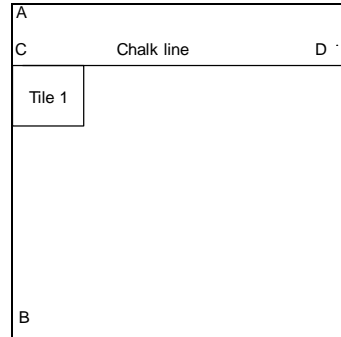

Figure 2
3. Place the first tile (tile #1 in Fig 2) in the corner of the straight wall (Fig 2, AB) and the chalk line (Fig 2, CD) with the finished edge towards the corner and the dove tails facing out (Fig A).